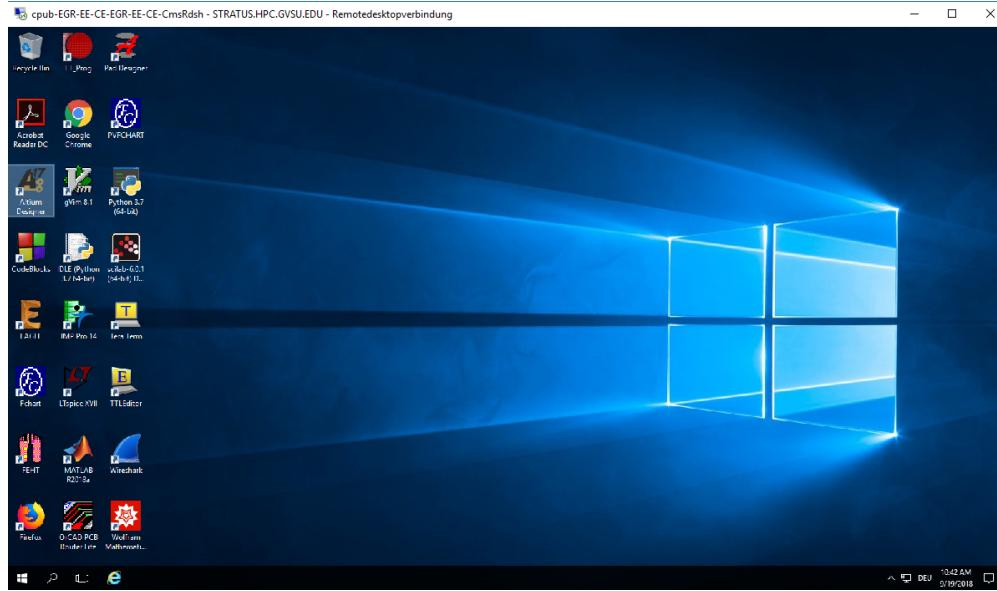

Figure 4: EGR-EE-CE blade server empty Windows Server 2016 desktop, with 46.0 GB RAM.
3. If everything worked out as expected the blade screen shown in figure 4 appears. In this figure the Altium Desktop Icon is the third from upper left corner.